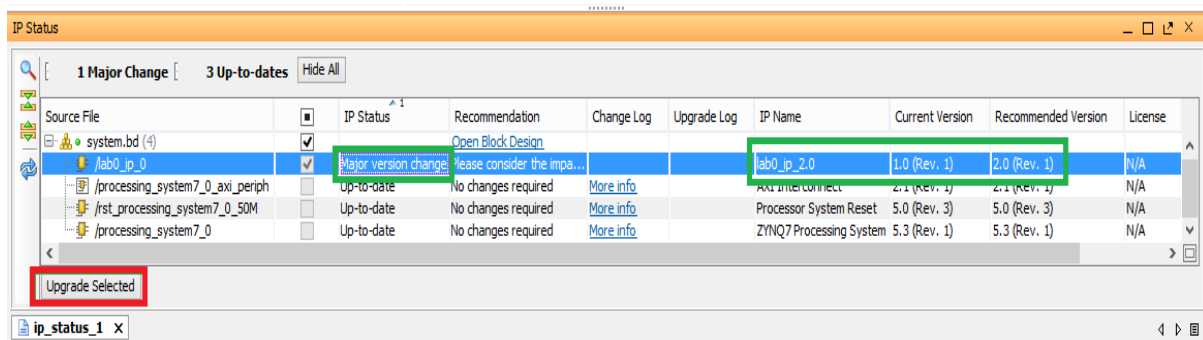

Figure 5-7: Step 5.9, Vivado reporting changes to the IP in your high-level design
- 'report_ip_status -name ip_status_1' This generates an IP report which shows whether or not the IP in your design are up to date. You should see that lab0_ip_0 has a "Major Version Change" as shown in *Figure 5-7*.